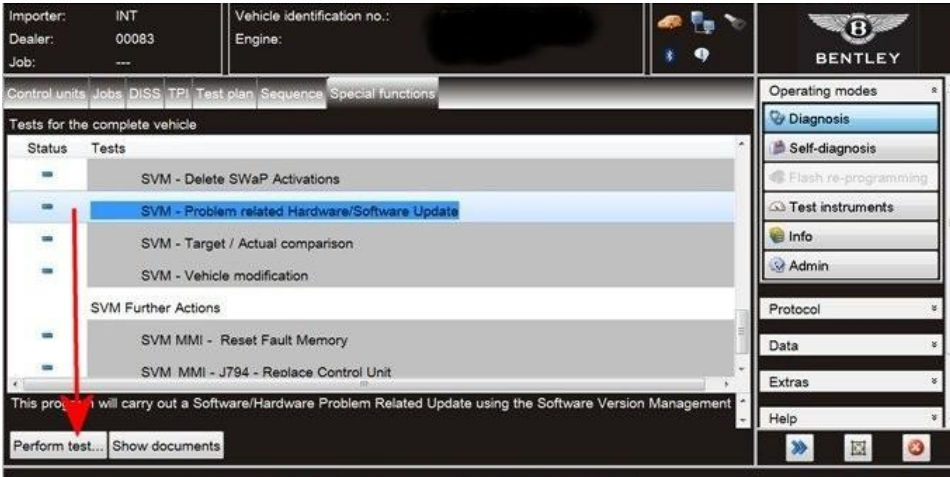

Figure 4
- Within the Special functions tab select SVM – Problem related Hardware/Software update then select Perform test (Figure 4)